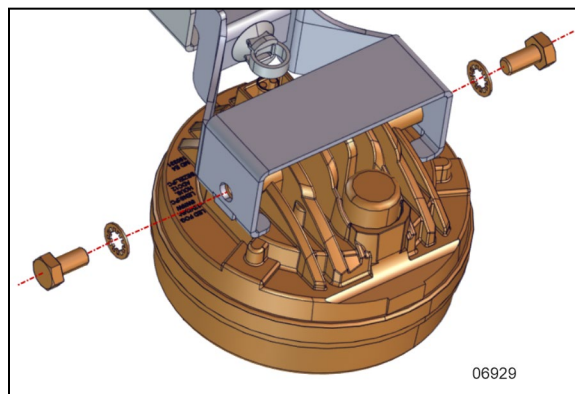

FIGURE 114: FOG LIGHT REMOVAL
3. Remove the screws that supports the fog light subassembly on the bumper support (Figure 114).